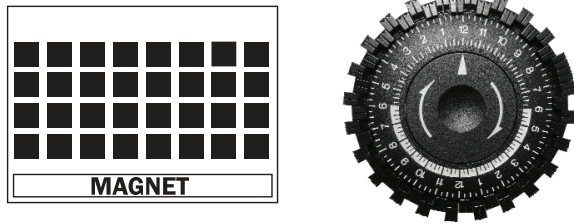

Figure 3: Defrost timer and bypass magnet position for operating in temperatures below 50°F.
the evaporator more quickly and efficiently. See Figure 3 below for correct bypass magnet position and defrost timer for operating in temperatures below 50°F.
4. To improve performance below 50°F, the compressor "off" time must be increased to allow the frost to completely melt. To do this, push the pegs out from the dial center so that the pegs alternate with 2 toward the center, then 2 out from the center, all the way around the dial except for the section now with 6 pegs out in a row. Refer to Figure 3.